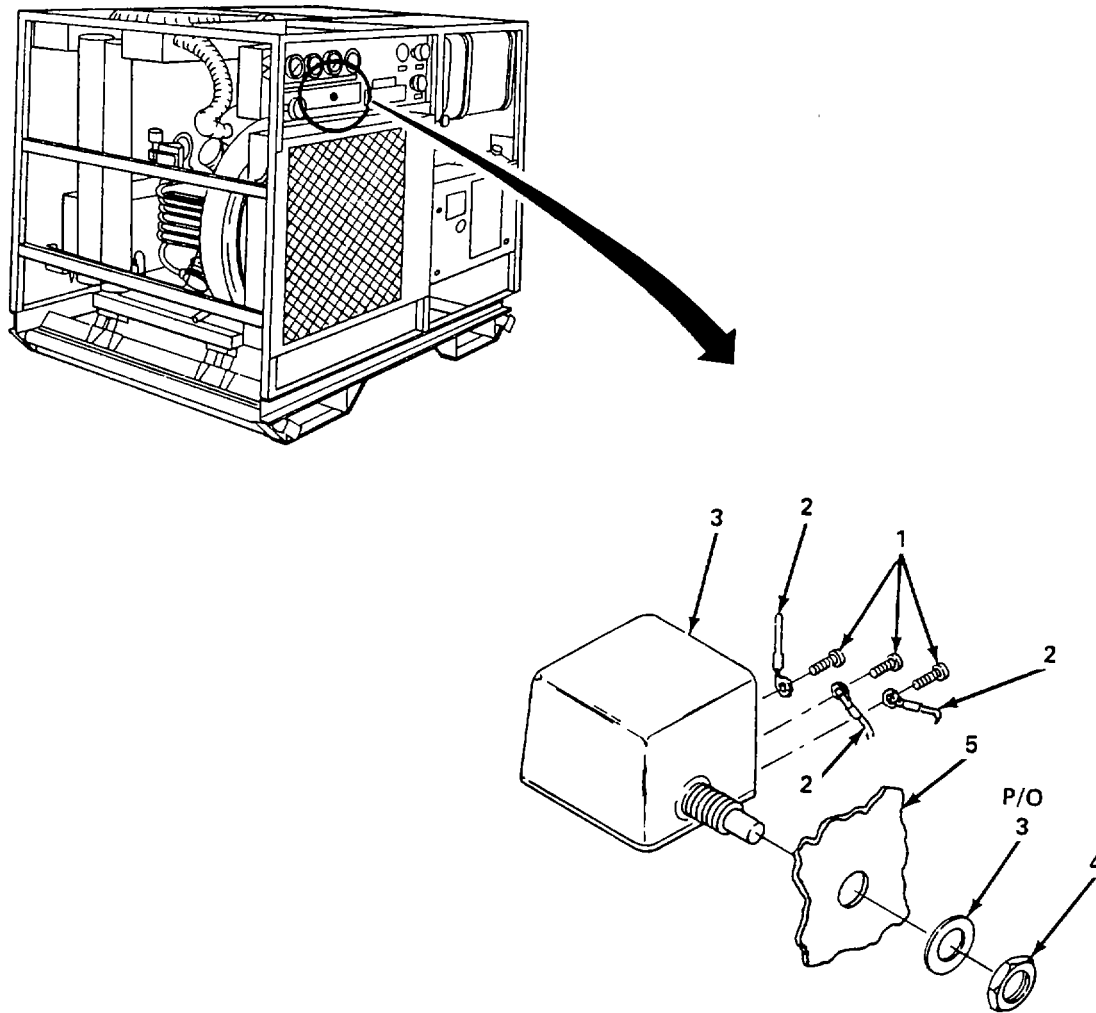

Figure 4-16. Relay Latch, Replace.
(7) *Relay latch.* (figure 4-16)
- (a) Loosen three screws (1) and tag and remove three wires (2) from relay latch (3).
- (b) Remove nut (4) and remove relay latch (3) from control panel (5).
- (c) Install relay latch (3) and secure with nut (4).
- (d) Install three wires (2) and tighten three screws (1).